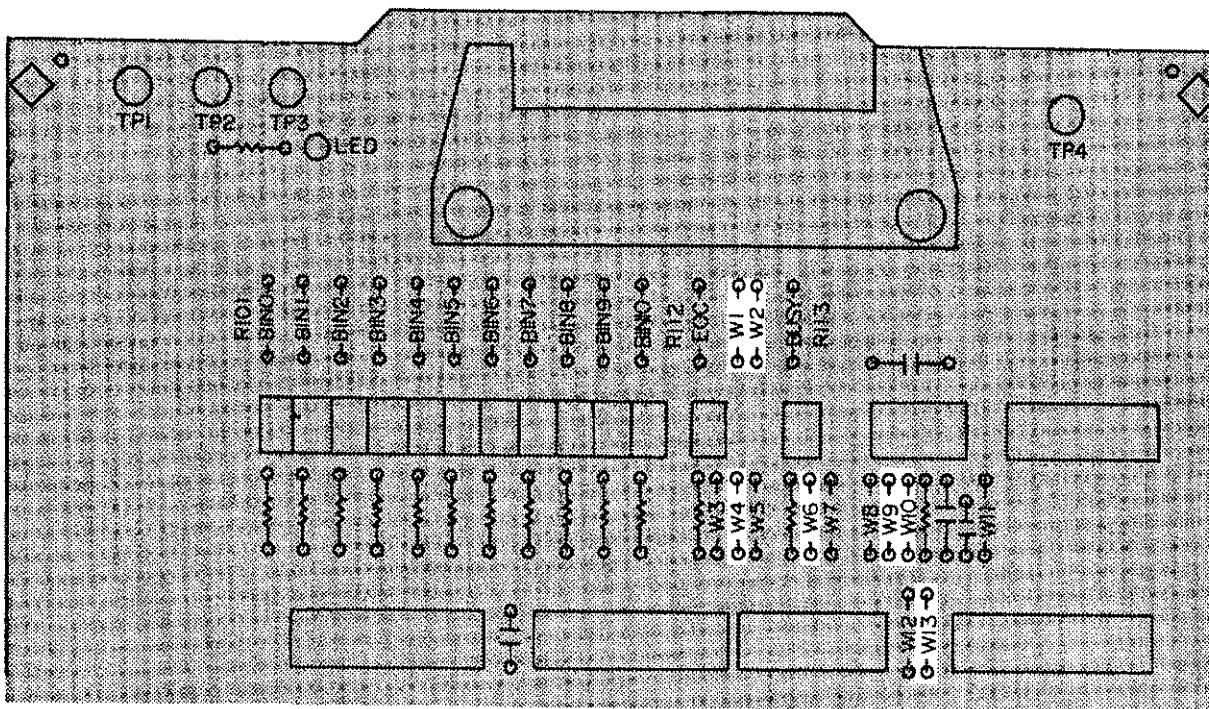

Figure 4-30. RTR2 Jumper and Pull-Up Resistor Locations
1. Configure the following interface signals by installing the jumpers as shown in Figure 4-30.
2. Bring + 5V out through pins 12 and 17 of the handler interface rear panel connector (install a jumper at W1 for + 5V and at W2 for the **COMMON** connection). Refer to Figure 4-30 for the locations of W1 and W2.